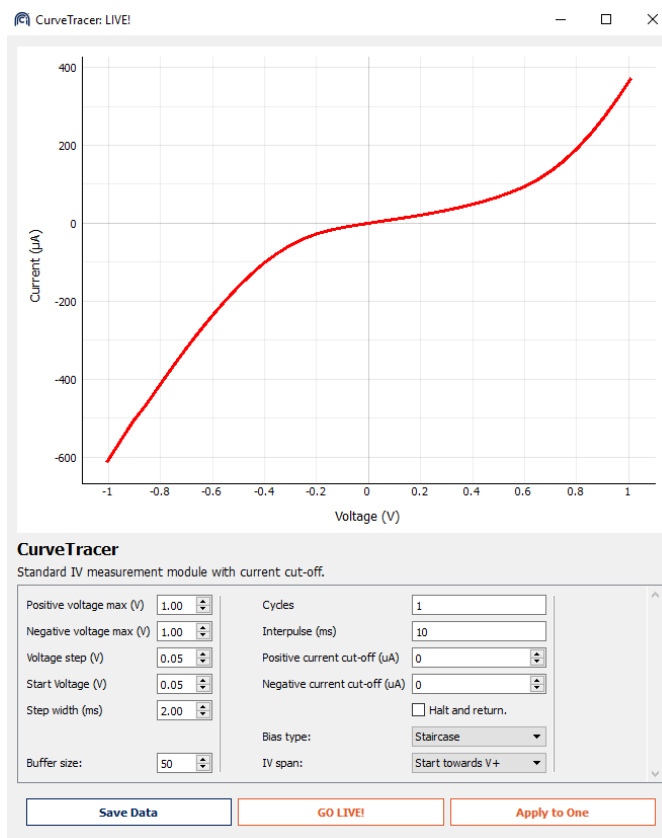

Figure 23: CurveTracer - LIVE
**Live:** Pressing this button opens up a panel similar to CurveTracer (Figure 23) offering live display of I-V curves.